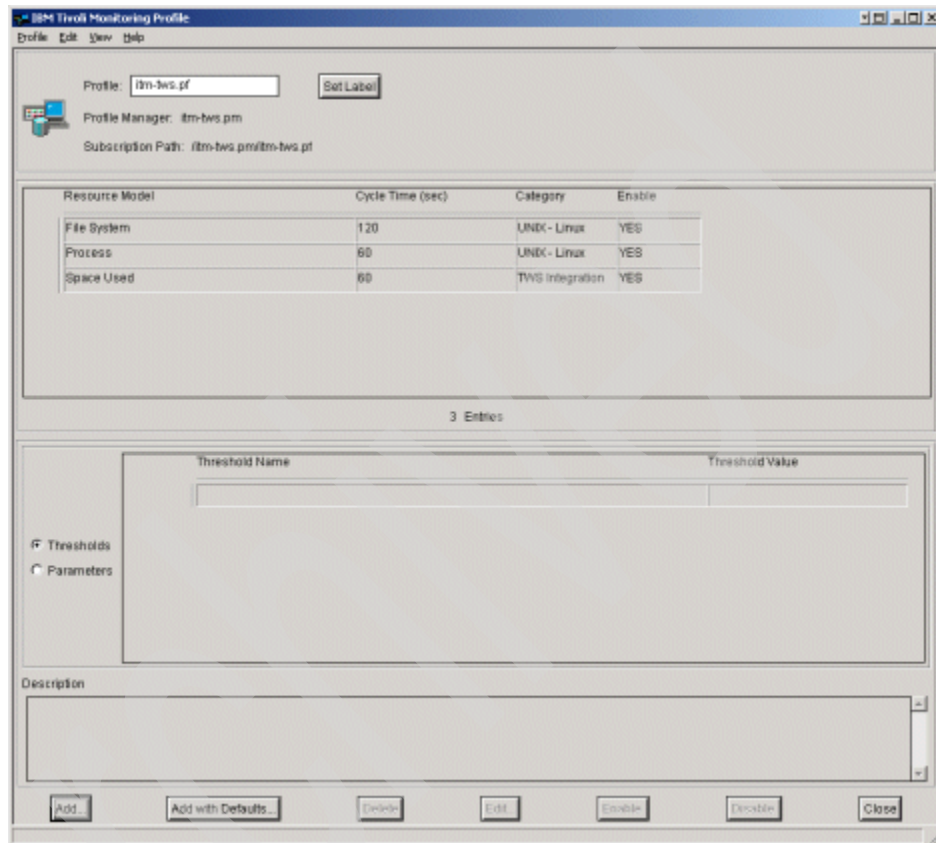

Figure 9-131 An open Tivoli Monitoring profile
1. Open a Tivoli Monitoring profile as shown in Figure 9-131.